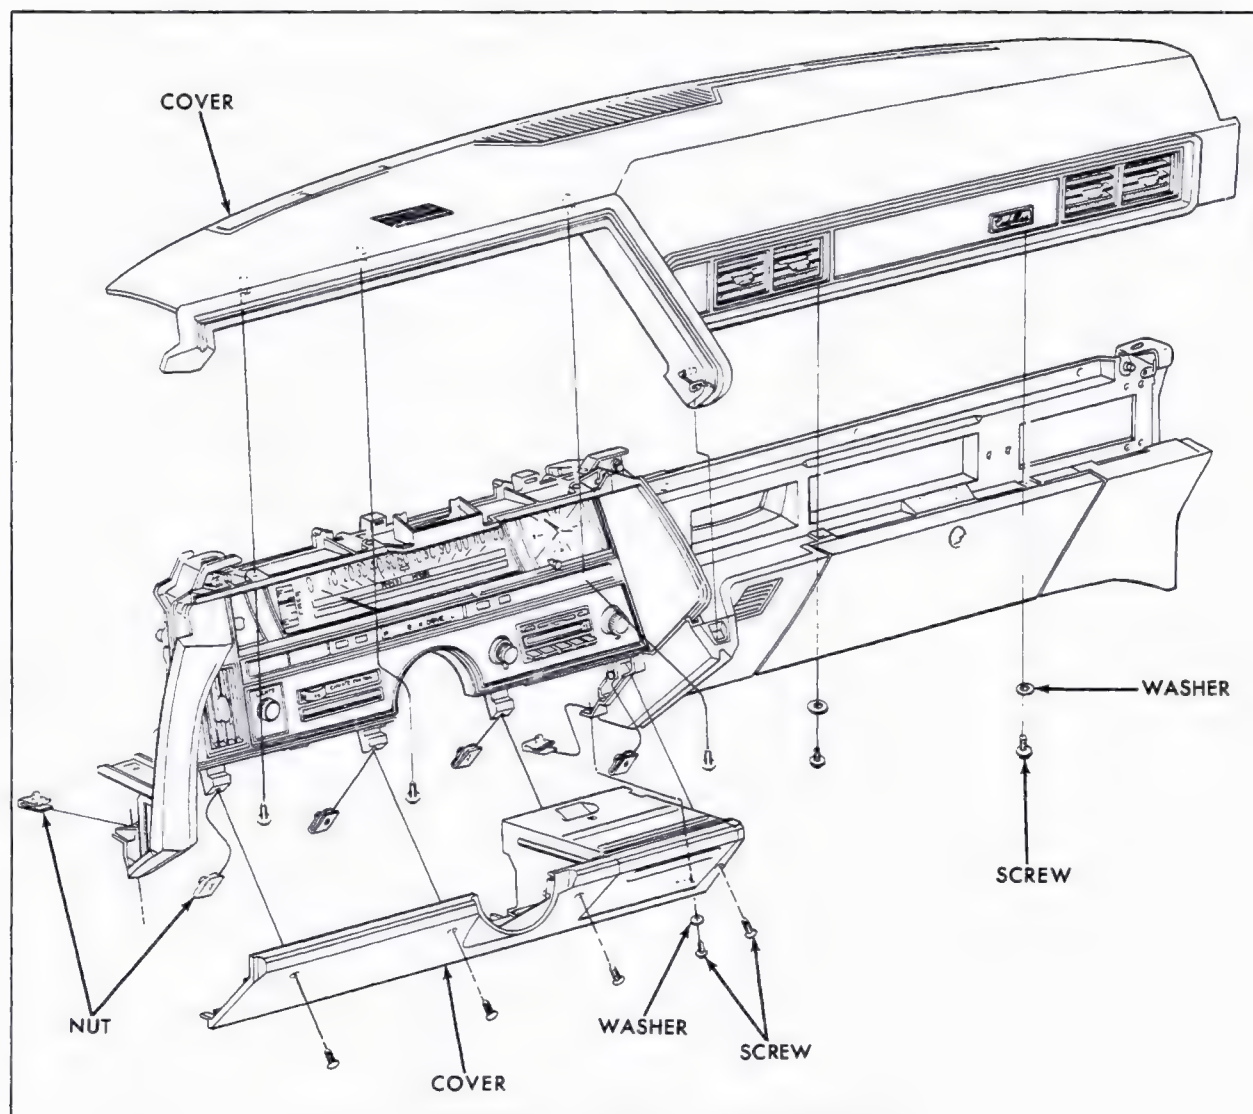

Fig. 12-38 Instrument Panel - (Cover Disassembled)
44. Instrument Panel Top Cover (Fig. 12-38)
45. Steering Column Lower Cover (Fig. 12-38)